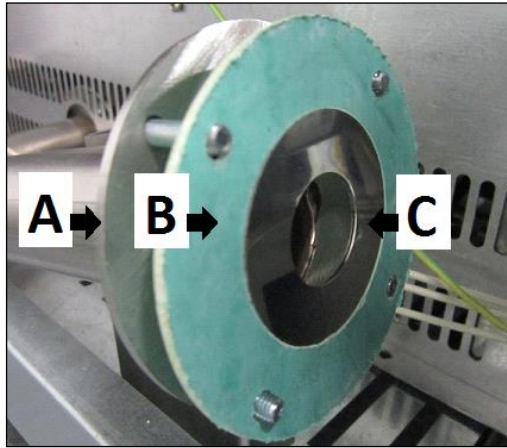

Fig. 3
3.13.5 Fitting the flow "baffle" for the new gas (Fig. 3)